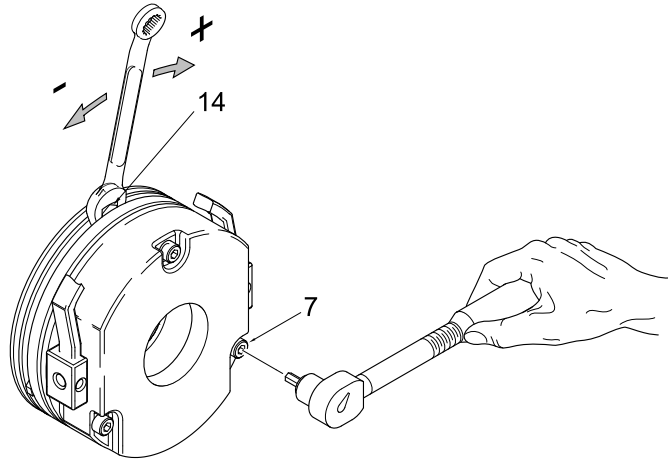

Figure 42 – Adjusting the Hoist Brake Air Gap
Where adjustment is required, slacken the assembly screws (7). Adjust the air gap by turning the adjustment tubes (14) until the nominal air gap 'a' is reached (see Figure 42).
- If the air gap is too large, screw the three adjustment tubes (14) into the stator. If the air gap is too small, screw the adjustment tubes out of the stator.